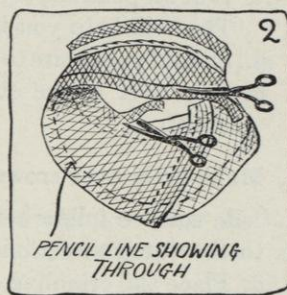
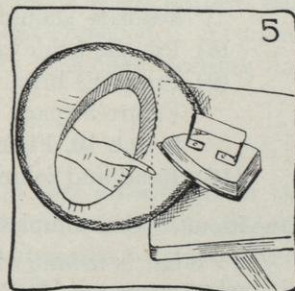

FIG. 2.
FIG. 5.
- d. Sew brim to headsize band with back stitches, just above the headsize wire. The stitches may be $\frac{1}{2}$ inch long on the inside of the headsize band and $\frac{1}{4}$ inch long on the outside (see Figure 5 of Job 25, page 105).
- (1) Change, if necessary, as shown in Sections 3 c (4) (a) and (b), page 100.
- f. Cut off the rice net, willow, or crinoline that extends above the backstitches on the inside of headsize band (see Figure 2).
- g. Cut edge on desired penciled line (see Figure 2).
- (1) Put a pin at the center back, right at the edge of the brim.
- (2) Measure from this pin with the tape measure around the edge of the brim until you come to the pin again (see Figure 2 of Job 16, page 67). Jot down that measurement. Be careful not to hold in the edge of the brim or you will cut the piece of wire too short for the brim.
- (3) Add 4 inches to this measurement and jot it down.
- (1) Place the headsize of the brim against the ironing board so that a small portion of the brim itself rests on the board.
- (2) If necessary, dampen brim with a slightly dampened cloth.
- (3) Press very carefully so as not to change the shape of the brim (see Figure 5).
- (4) Press the brim until it is perfectly dry.
- (5) Turn brim so that you can press right along side the part that you have just pressed and continue, as shown in Sections 3 *k* (1), (2), (3) and (4), page 101.